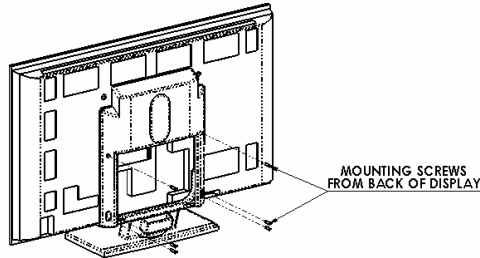
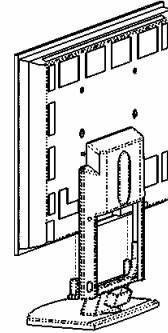

Figure 4
Figure 5
2. Remove screws securing table stand to display and remove table stand from display (see Figure 4 & Figure 5).